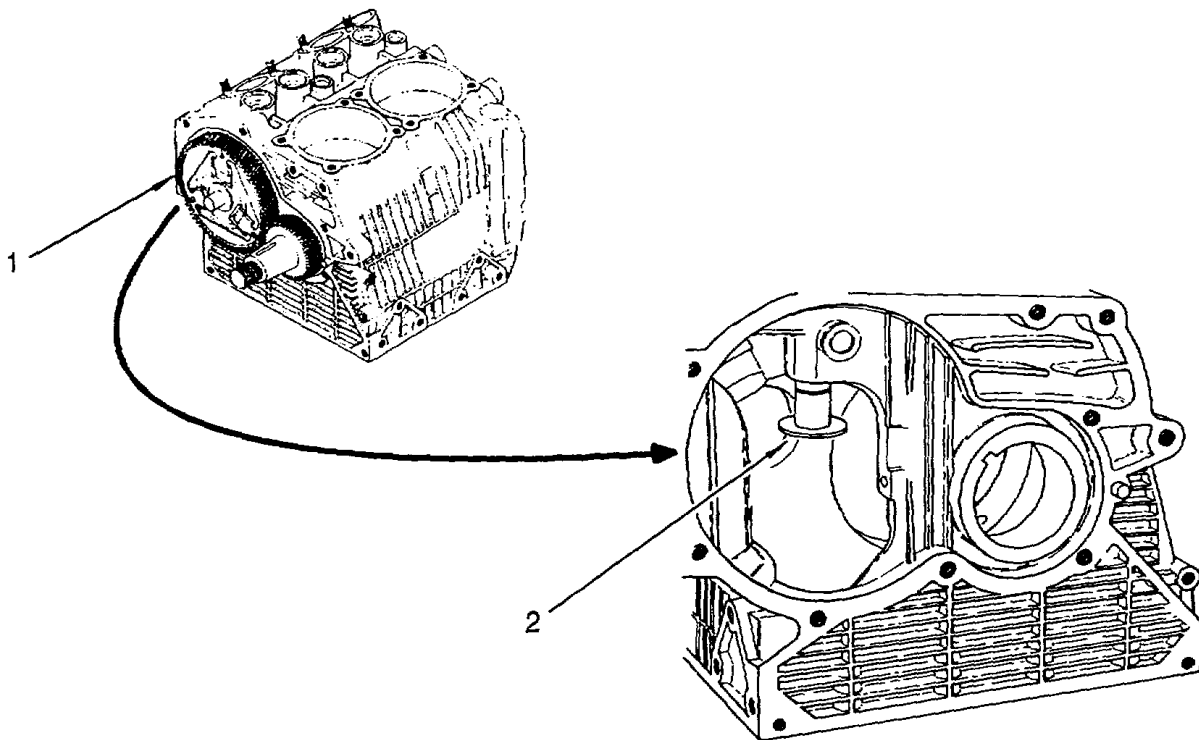

Figure 6-17. Camshaft and Valve Tappets Removal
6.3.16 Remove Camshaft and Valve Tappets. (Refer to figure 6-17.)